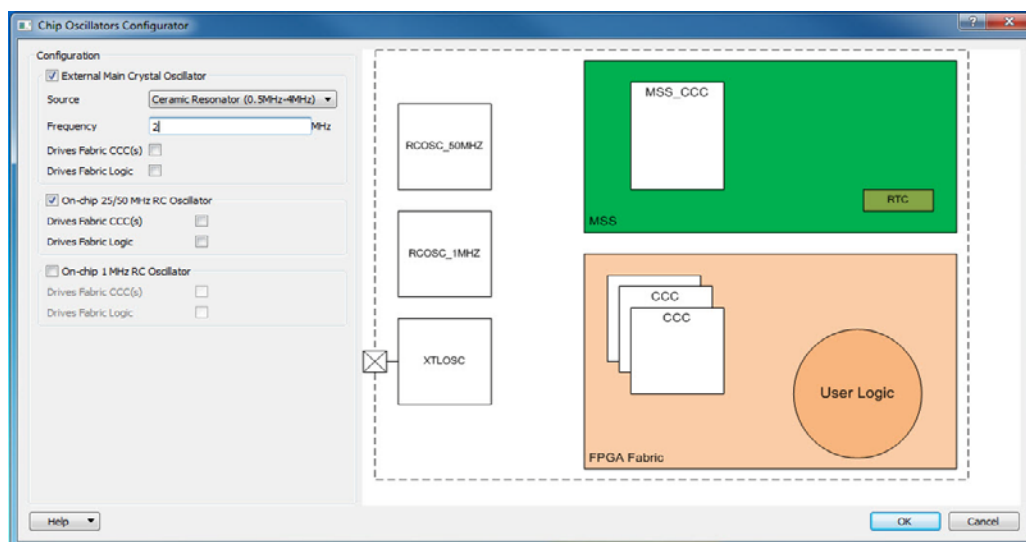

Figure 1 • Oscillators Configuration
- The Preview box shows you a high level block diagram of how your current configuration relates to the various chip components driven by the various oscillators selected for your design (Figure 1).